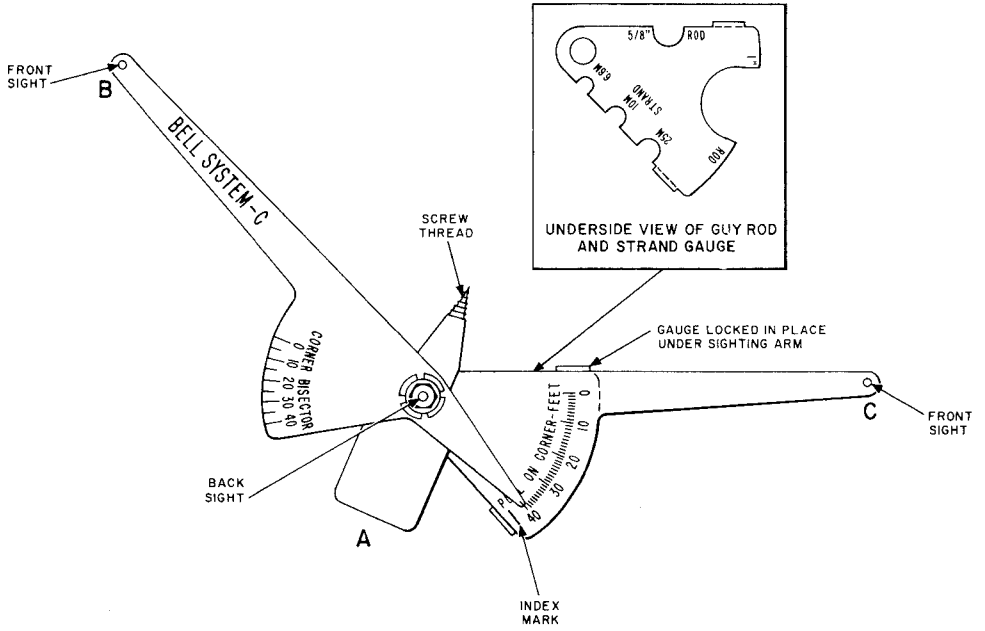

Fig. 3—C Pull Finder
4.02 The C pull finder, as shown in Fig. 3, consists of a short arm (A) with a threaded point which screws into the pole and supports two pivoted sighting arms (B and C) and a gauge for determining existing guy rod and galvanized strand sizes in the field.
shape of the gauge coincides with the triangular base sections of the sighting arms. Two small projections on the gauge edges lock the gauge into place under the sighting arm base when not in use. (Fig. 3.) To use, swing the gauge free of the sighting arm base by depressing the locking projections.